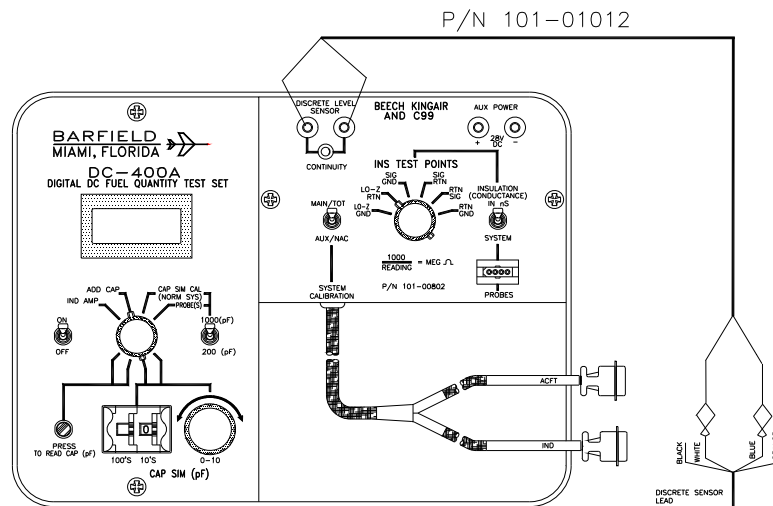

Figure 8 Probe Discrete Level Interface
- (1) Connect the test set to the probe as shown in Figure 8.